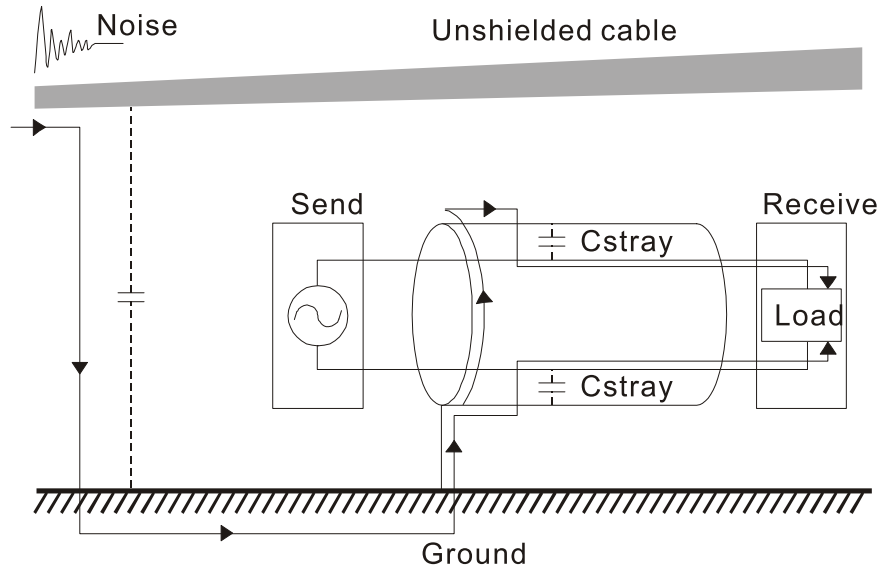

Figure A-4
- 4. The common-mode noise of an unshielded power cable is transmitted to the ground via the stray capacitance. Since both shielded wire and unshielded wire are connected to a common ground, other systems can be interfered with by the common-mode noise that is transmitted from the ground back to the system via the shield. See Figure A-4.